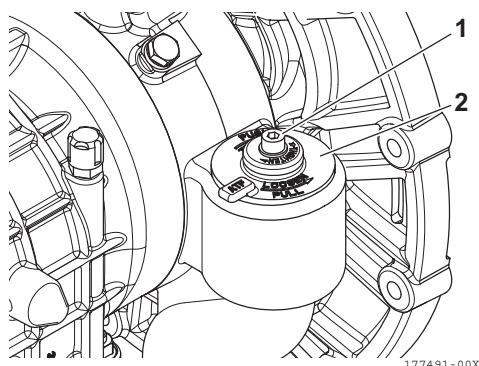

Figure 11
1. Using the 6 mm hex key, loosen the capscrew (1, **Figure 11**) of the filter cartridge cover assembly (2, **Figure 11**).